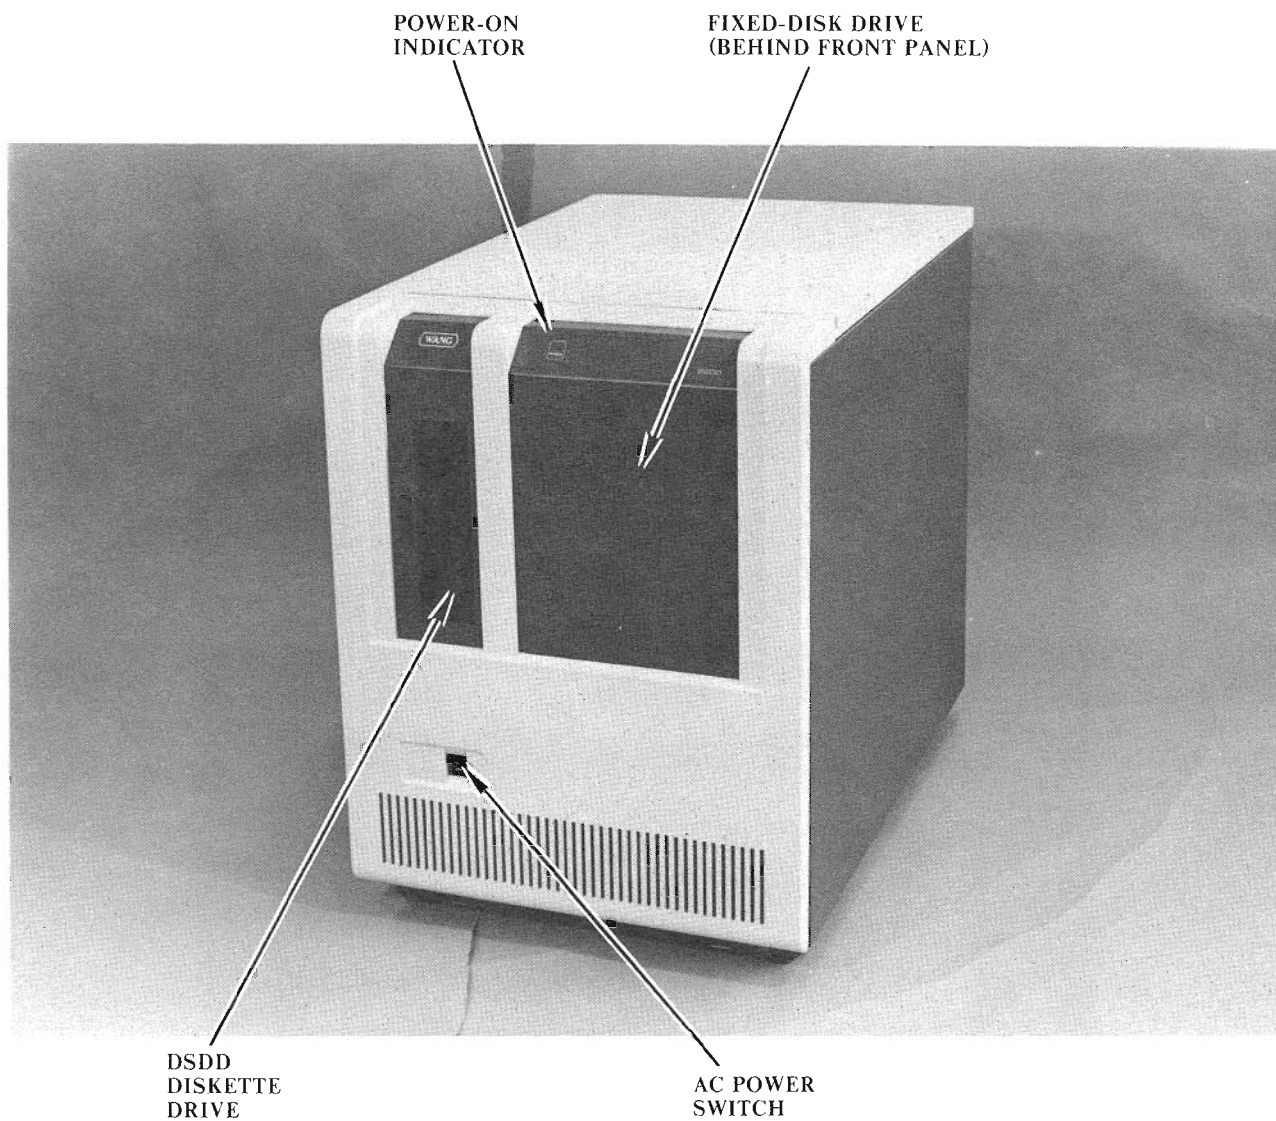

FIGURE 8-1 2200LVP (FRONT VIEW)
3. Be certain that the CPU ac power switch (ref: FIGURE 8-1) is OFF, and then plug the CPU ac power cord in.